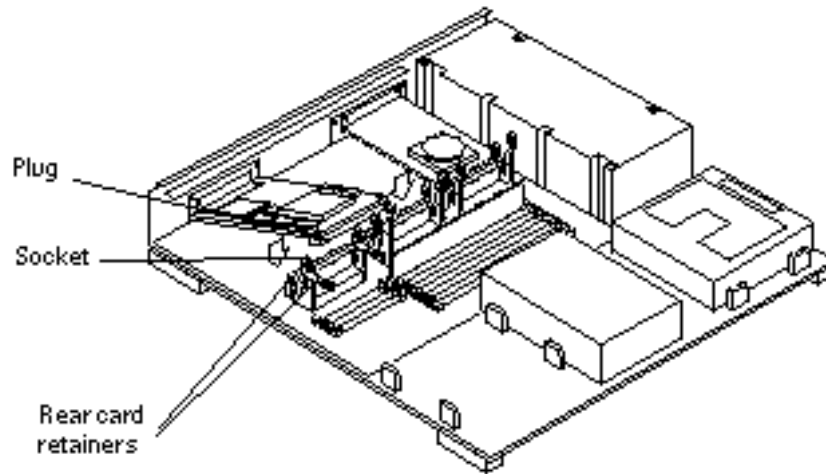

Figure 5–31 SBus Card Plug, Socket and Retainers
See Figure 5–31.
6. **Install the washers and screws you removed earlier into the screw holes adjacent to the SBus card on the back panel using a Phillips screwdriver. The long side of the washer should be oriented vertically. See Figure 5–32.**